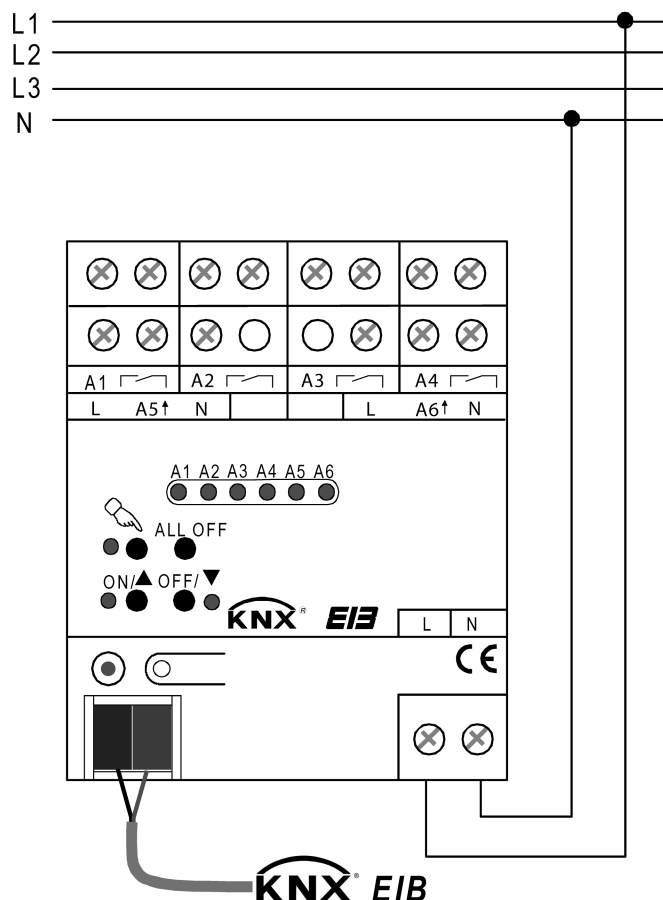

Figure 2: Electrical connection of mains voltage
- Connect the bus (standard bus terminal) and the mains voltage as shown in Fig. (Figure 2).